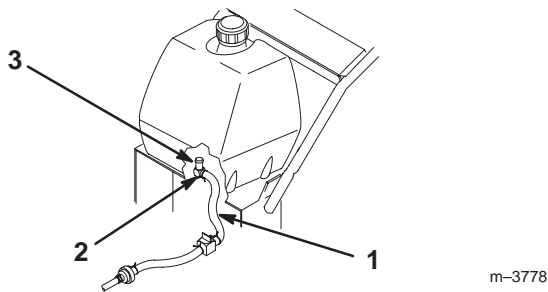

Figure 11
3. Push the fuel line onto the fuel tank fitting, and secure the fuel line with a hose clamp (Fig. 11).